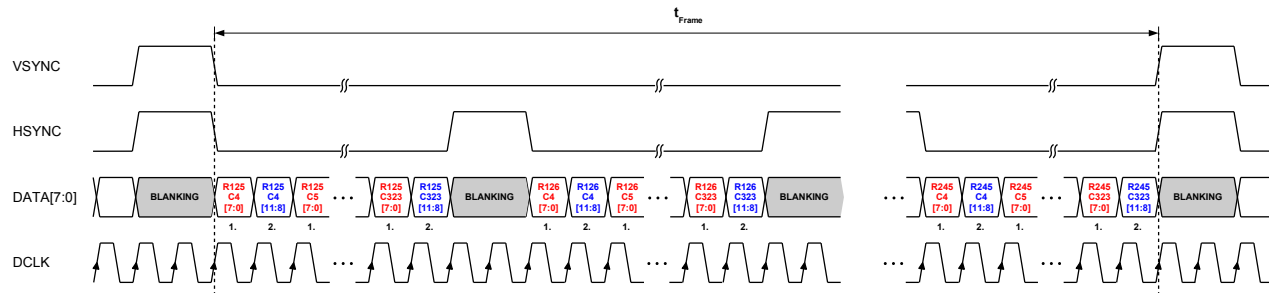

Figure 33: **lsb/msb** split mode
- lsb/msb split mode: Transfers 12 bit pixel data with LSByte leading and MSByte trailing with 2x DCLK. Refer to Table 15 and Figure 33.